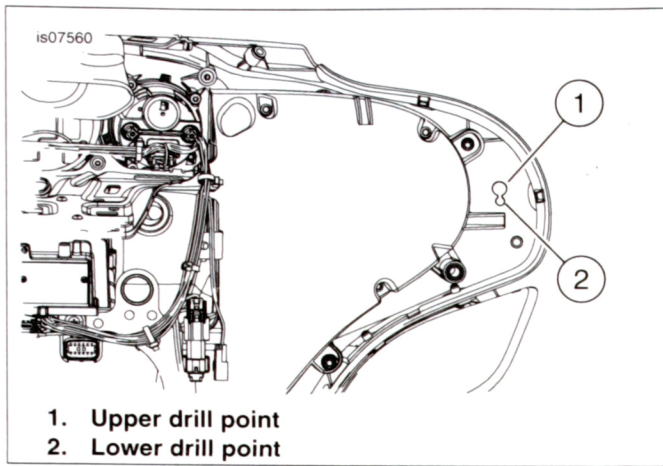

Figure 1. Drill Points (Left Side Shown)
- a. See Figure 1. Locate drill points (1 and 2).
- d. Drill a 13/32 hole at drill point (1) with a twist drill bit.
- e. Drill a 7/32 hole at drill point (2) with a twist drill bit.